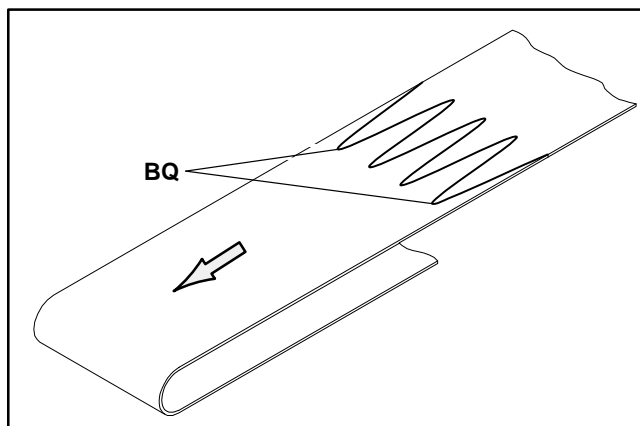

Figure 28
1. Orient the conveyor belt so that the splice leading fingers (BQ of Figure 28) point in the direction of belt travel as identified by the label (BP of Figure 26).